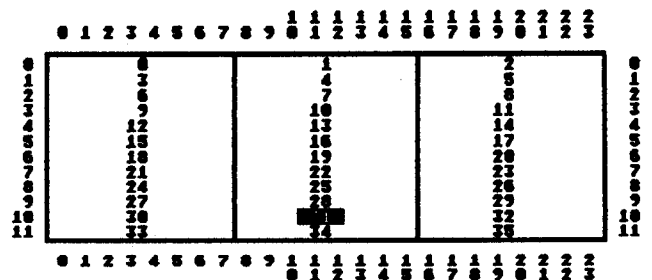

Figure 1.
All right, we now see that having our own PLOT routine would be useful, but how do we go about writing one? First, we'll start by looking at how the Atari represents graphics mode 24 data by means of a simple example. Imagine a small piece of graph paper 24 by 12. Label the top left square 0,0 and the bottom right square 23,11. Draw a line from top to bottom between squares 7 & 8 and 15 & 16, and then number these divisions starting with 0,1,2 for the first line; 3,4,5 for the next line (1) and ending with 33,34,35 for the last line (11). What you should have is **Figure 1**. Except for the screen being much larger, this is exactly how the Atari generates a graphic 24 display. Each 8 square division on the graph paper represents an 8-bit byte of memory.